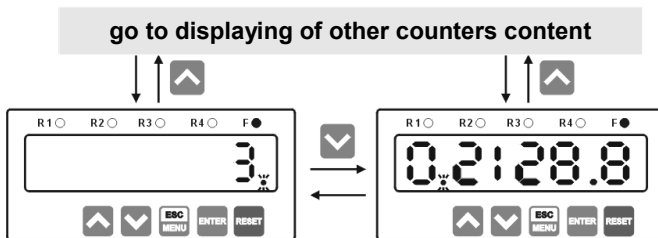

Figure 6.2. Selection between less and more significant half of the totalizer
To change displayed half, press [V] button. When more significant half is showed on the display, it's most right decimal point flashes. Described situation is showed in Figure 6.2:
In Figure 6.2 is showed situation, where totalizer value is equal to 302128.8. Most significant digit (3) must be displayed in more significant half, the rest of the digits can be displayed in less significant half. Because of totaliser's content must be displayed into two halves, zero on left side of less significant half is displayed, and most left decimal point flashes signalling that more significant half is available. Simultaneously right decimal point (between eights) lights constantly, indicating decimal point position.